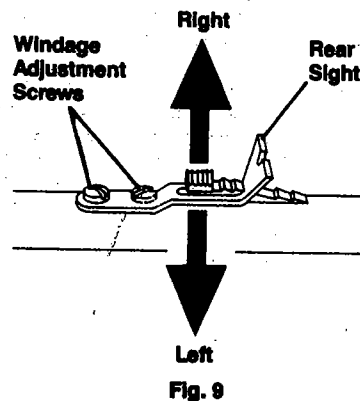

Fig. 9
- The rear sight may also be adjusted to shoot right or left (windage). Loosen the windage adjustment screws by turning counterclockwise. Move the sight to the right to make the pellet hit to the right on the target. Move the sight to the left to make the pellet hit to the left on the target. Then tighten the windage adjustment screws by turning them clockwise. (Fig. 9)